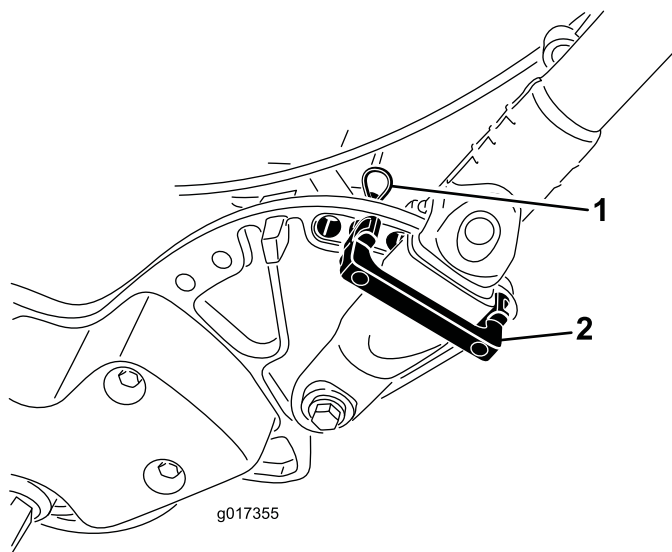

Figure 7
1. While supporting the handle, remove the cable ties securing the handle clamps to the side plates (Figure 7).
2. Pivot the handle to the desired operating position, insert a handle retainer over the handle clamp and into the matching holes in the side plate (Figure 7).
3. Secure the clamp in position with a hair pin cotter (Figure 7).